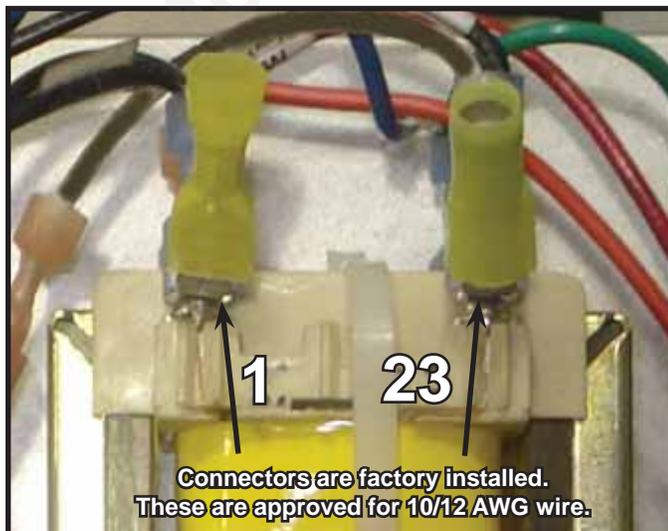

Figure 10.1
This appliance requires 110-120 VAC be wired directly to the transformer. See Figure 10.1.
2. Bring the electrical service wire through the wire restraint located on the right side of the appliance. Leave about 10 inches of electric service wire inside the appliance for the Black (L1) and White (N) wires, leave 16 inches of slack for the service ground wire to reach its grounding screw located beneath the remote.
3. Locate the (2) female insulated connectors installed on the Transformer and the (1) ground connector screwed beneath the remote control receiver. See Figure 10.1.
Note: The factory installed yellow female insulated connectors (2) and yellow ground connector (1) are designed for use with 10/12 AWG wire. If another gauge wire is being used, these connectors should be replaced with the appropriate gauge insulated connectors to ensure a proper connection. See Figure 10.1.
4. Connect the L1 (Black) service wire to the supplied yellow female insulated connector located on transformer terminal (23) using a wire crimping tool.